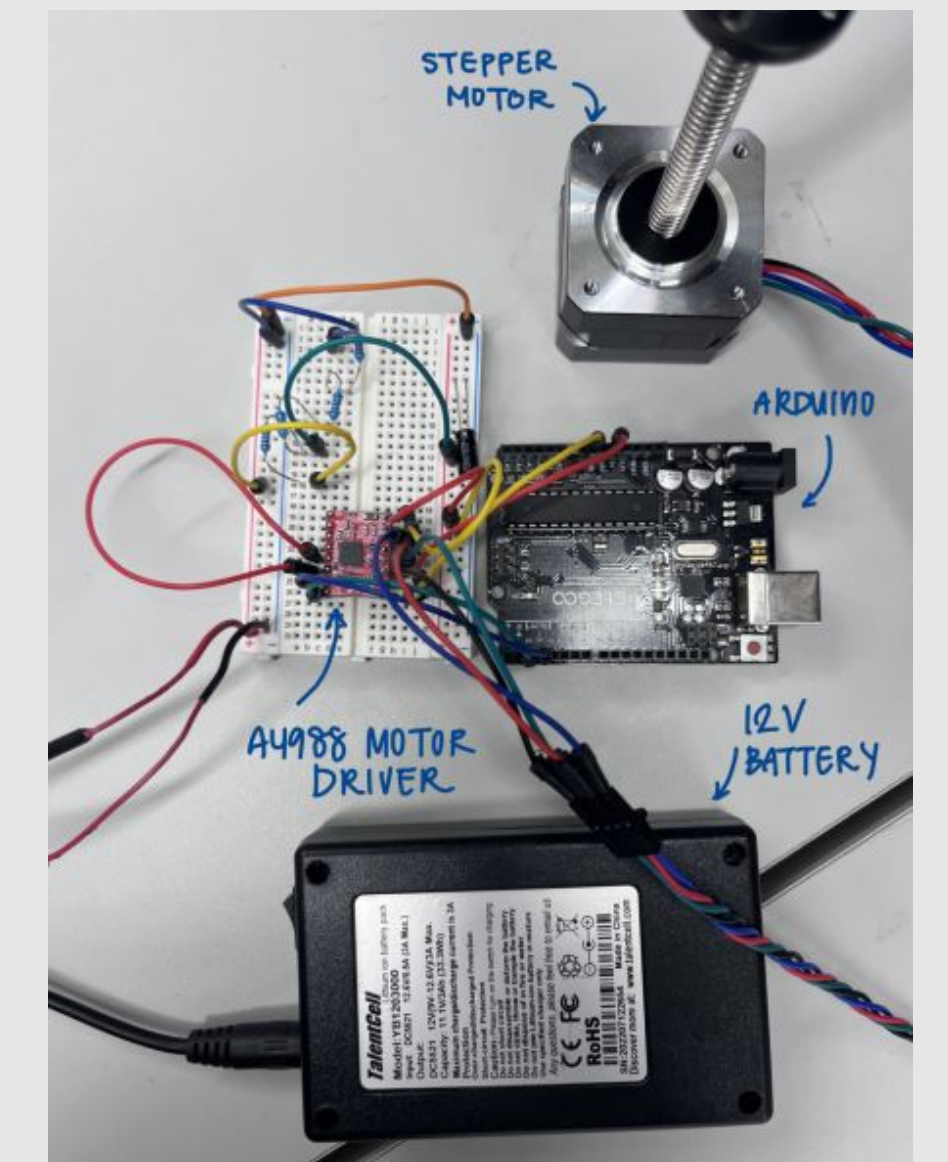

Figure 8: Wiring Diagram of Stepper Motor
- Exploded view shown in Figure 8